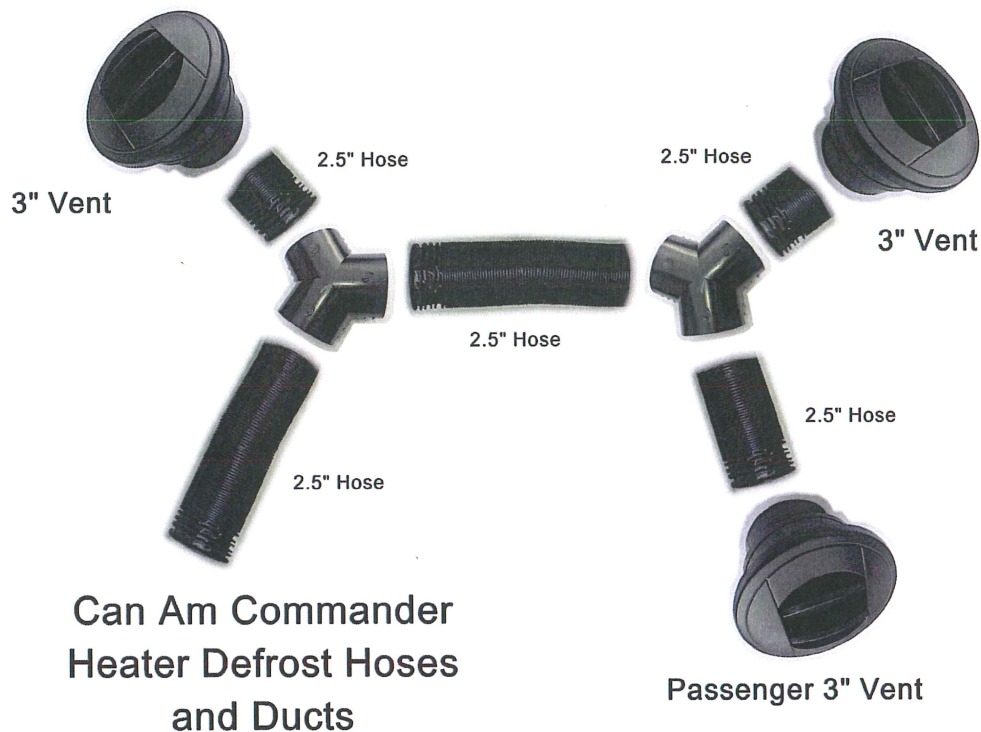

Figure 11c
- Using Figure 11c as a guide, secure the Hoses with Cable Ties.